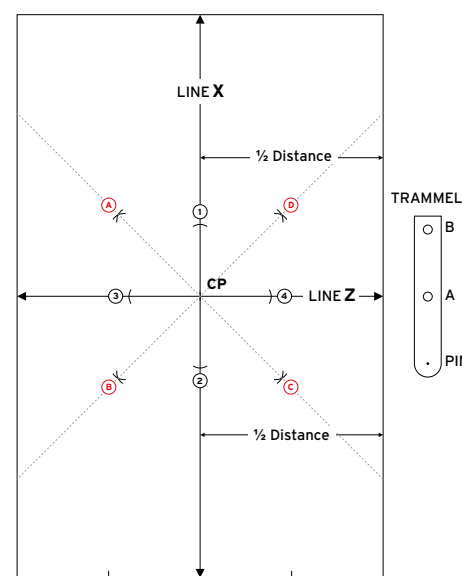

Figure 3
- ▶ Find the centre of line X and mark the Centre Point (CP).
5.6.3 Setting out and installation for diagonal tiling (Refer to Fig 3)
- ▶ Mark a centre line as described earlier (Fig 3).